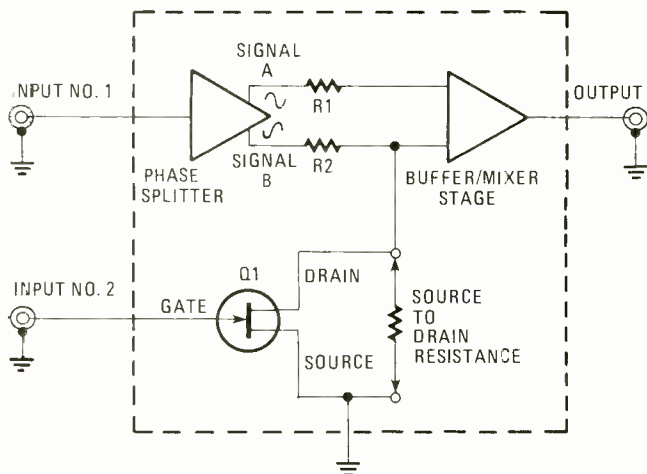

FIG. 2—BLOCK DIAGRAM SHOWS THE SIGNA-MOD broken down into specific operating sections.
The block diagram of the Signa-Mod as depicted in Fig. 2, reveals a pair of signals (A & B) were created by using a phase splitter from the signal applied to input 1 of the Signa-Mod. The two signals (A & B) will emerge from the phase-splitter stage possessing amplitudes of equal nature but directly opposite in phase characteristics. Thereby, phase (A) achieves a predetermined level of attenuation by R1 which is being fed directly to the buffer/mixer stage. At the same instant, phase (B)
Signal B (refer to Fig. 2) of the phase-splitter is taken off collector, Q2 through capacitor C9, which is then
attenuated by a divider network composed of R11, R13 and voltage-controlled attenuator transistor Q4. At that precise instant, signal B (refer to Fig. 2) drawn from the collector of Q3 through capacitor C10 and R12, which is now fixed at a predetermined level of attenuation. The two signals are combined and applied to transistor Q5 through capacitor C13. Q5 serves as a common emitter class A buffer/mixer.